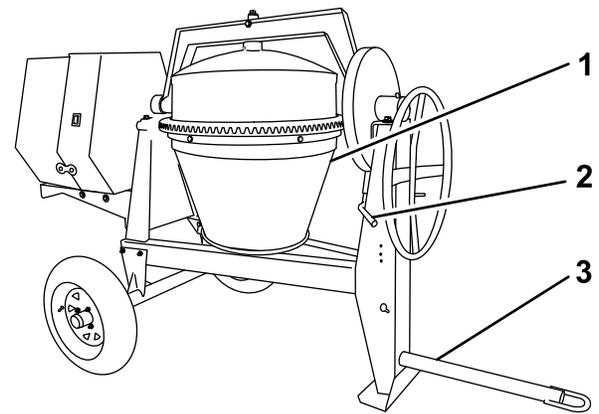

Figure 15
2. Using the handwheel, position the drum so that it is pointing down toward the ground (Figure 15).